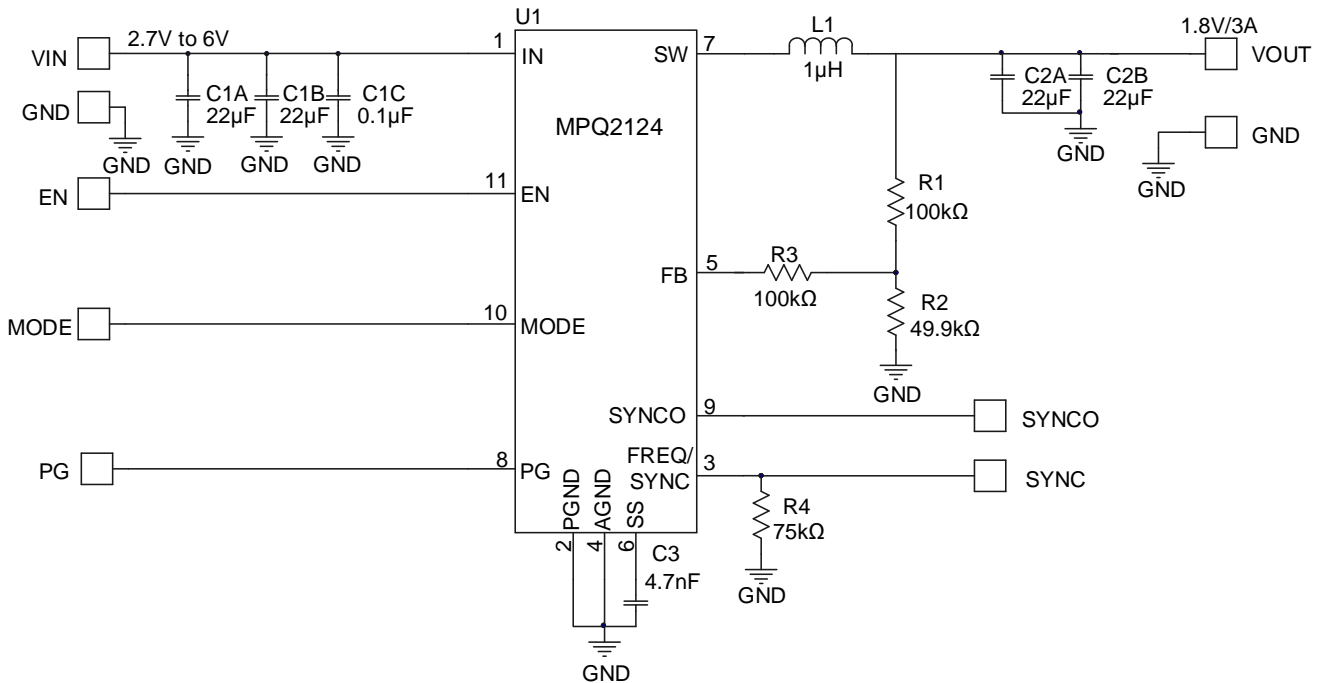

Figure 5: V_{out} = 1.8V, I_{out} = 3A Application Circuit
- 7) The recommended PCB layout is based on the Typical Application Circuit section on page 24 (see Figure 5).